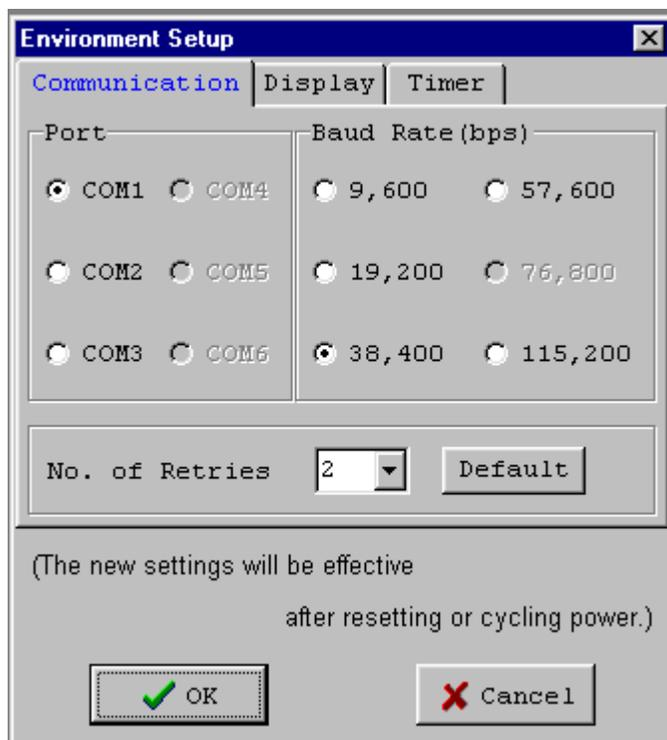

Figure 9.7.1 Environment Setting – Communication
- a. Select Tool (I) and then Environment Setting (S) from the menu.
- b. Click the **Communication** tab to display the window shown in Figure 9.7.1.